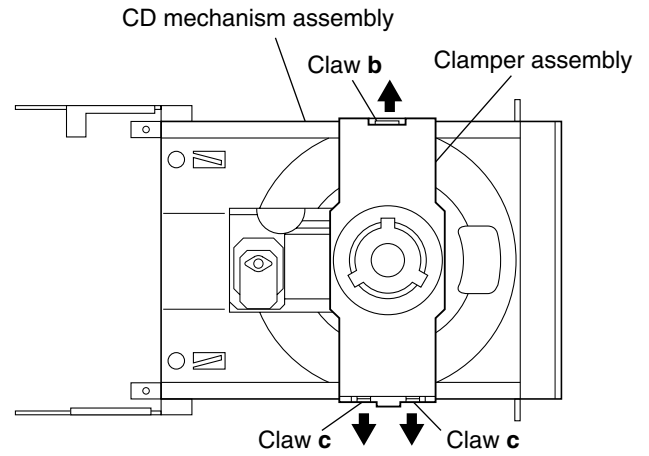

Fig.4
(See Figs. 4 to 7.)
1. From the top side of the CD mechanism assembly, open up the claws **b** and **c** at the left and right of the clamber assembly and lift the assembly to remove it. (See Fig.4.)
1. Remove the left and right side plates. (See **Figs. 4** to **7** of "Main body section" on page 1-7.)